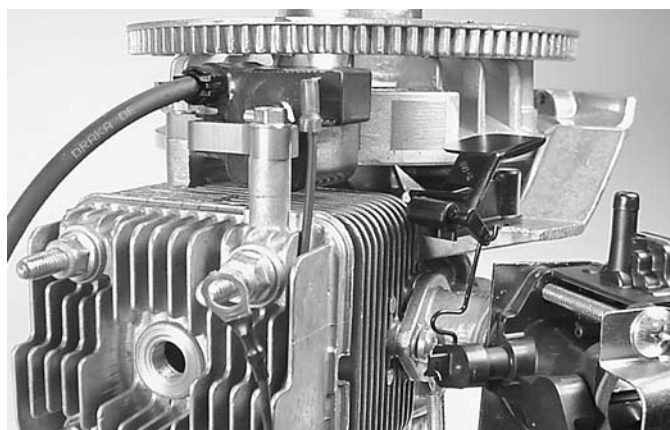

Fig. 76
10. Install ground wire assembly to ignition coil. Route wire between cylinder head fins as shown (Figure 76).